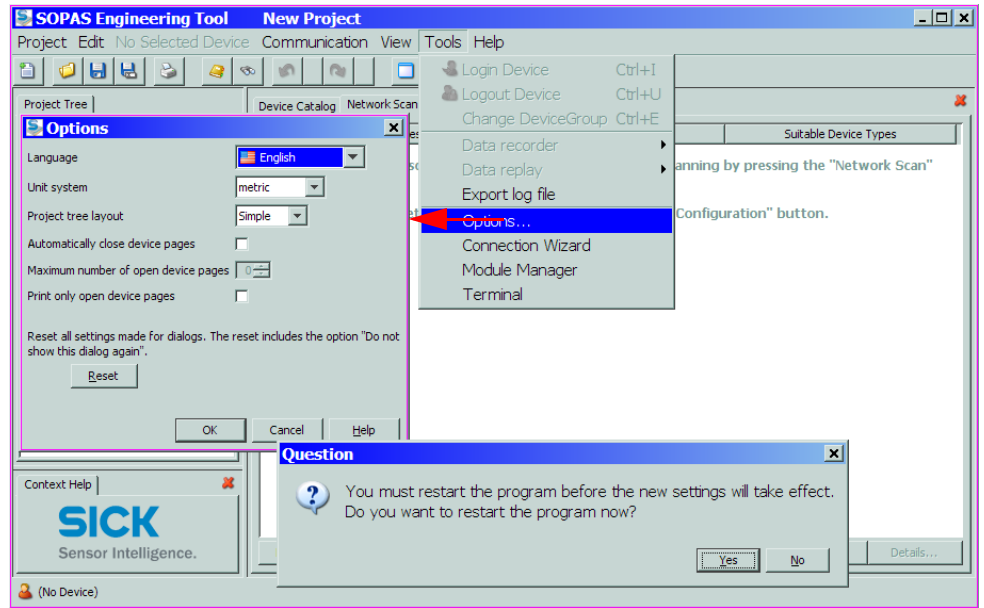

Fig. 4.4: Changing the language setting
- ▶ Select the unit of measurement to be used in the "Tools / Options" menu (see Fig. 4.4) (SI or US standard).